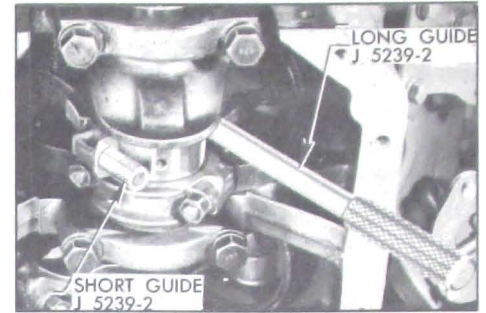

Figure 2-32—Connecting Rod Bolt Guides Installed
The braided fabric seal can be installed in crankcase only when crankshaft is removed; however, the seal can be replaced in cap whenever cap is removed. Remove old seal and place new seal in groove with both ends projecting above parting surface of cap. Force seal into groove by rubbing down with hammer handle or smooth stick until seal projects above the groove not more than 1/16". Cut ends off flush with surface of cap, using sharp knife or razor blade. See Figure 2-32. CAUTION: The engine must be operated at slow speed when first started after new braided seal is installed.
4. With No. 1 crankpin straight down, remove the cap with bearing shell from No. 1 connecting rod, then install the short Connecting Rod Bolt Guide J-5239-1 on the lower connecting rod bolt, and install the long Guide J-5239-2 on the opposite bolt, above crankpin. Turn guides down to hold the bearing upper shell in place. See Figure 2-32.
12. Insert piston and rod assembly into its cylinder bore with the long guide pin placed above the crankpin. Push the assembly down until the rod bearing seats on crankpin. See Figure 2-32.